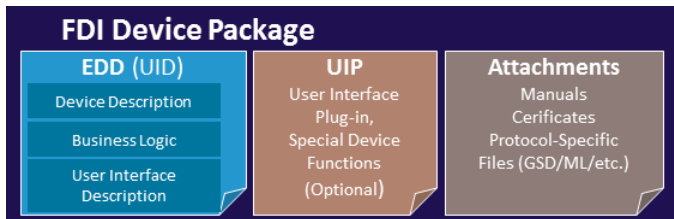

Figure 16: The FDI technology building blocks
A situation of this type is to be avoided for PROFINET through the new FDI technology according to IEC 61804, for which the first tool was introduced at the 2015 Hanover Fair. The FDI technology combines the strengths of the two previous technologies, adds the harmonization of the EDDL dialects and is optimized for uniformity of the host representations. There is exactly one device package for each field device (device package, Figure 16). This is a binary coded file containing a description of the data and functions of the device based on the latest harmonized EDD description language together with the description of the user interface (UI) and optional appendices. "Common FDI host components" ensure that device integration packages are processed the same in various FDI hosts. A cross-protocol development environment is available for developing FDI device packages for PROFIBUS, PROFINET, FOUNDATION Fieldbus H1, and HART devices.